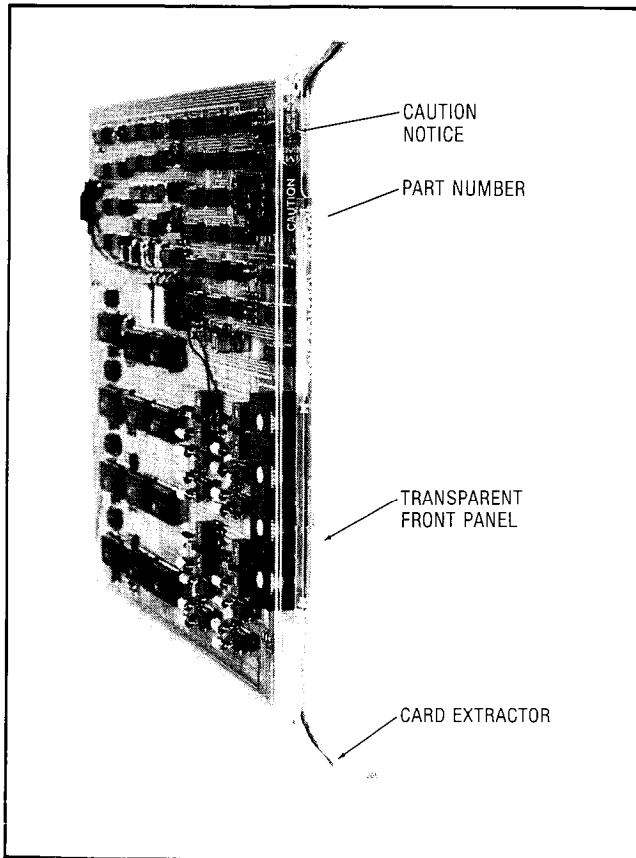

Fig. 2-4 Typical Printed Circuit Card
2.13 All circuit cards (Fig. 2-4) within the SX-200 are identical in construction and consist of a fiberglass board with printed wiring patterns on both of its faces. Riveted to the front of each board is a transparent faceplate which allows the LEDs mounted on the front of the boards to be easily seen. The two color-coded card extractors located at the top and bottom of the faceplate identify the card position within a shelf and ensure that the card is seated correctly in the back plane connector.